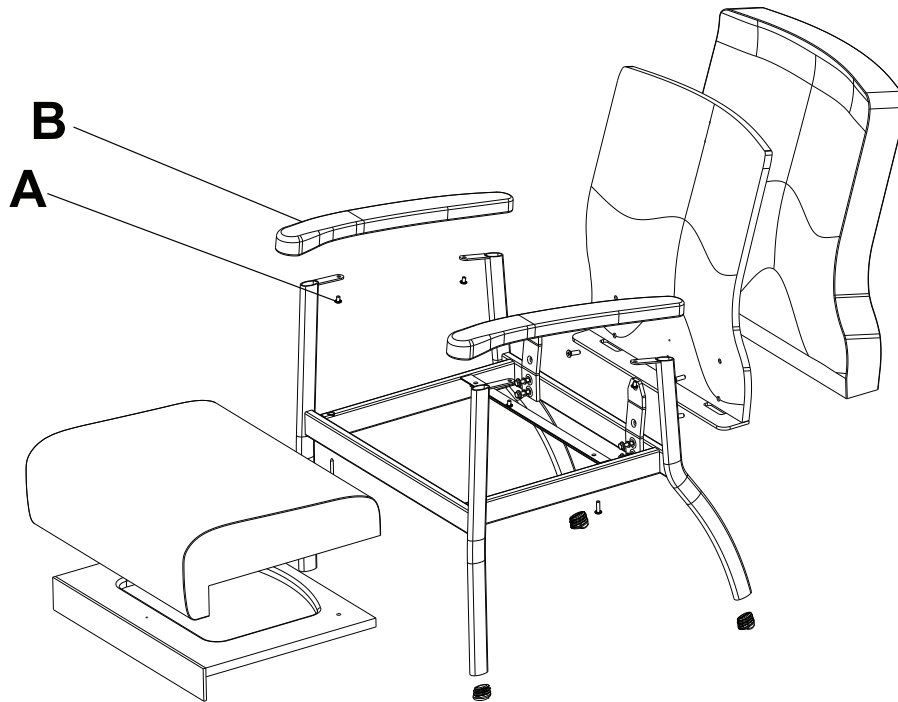

Figure 2 – Arm cap replacement
1. Using a #3 Phillips screwdriver, remove the two screws (A) that secure the arm cap (B) to the chair frame (Figure 2). Remove and discard the arm cap. Save the screws.